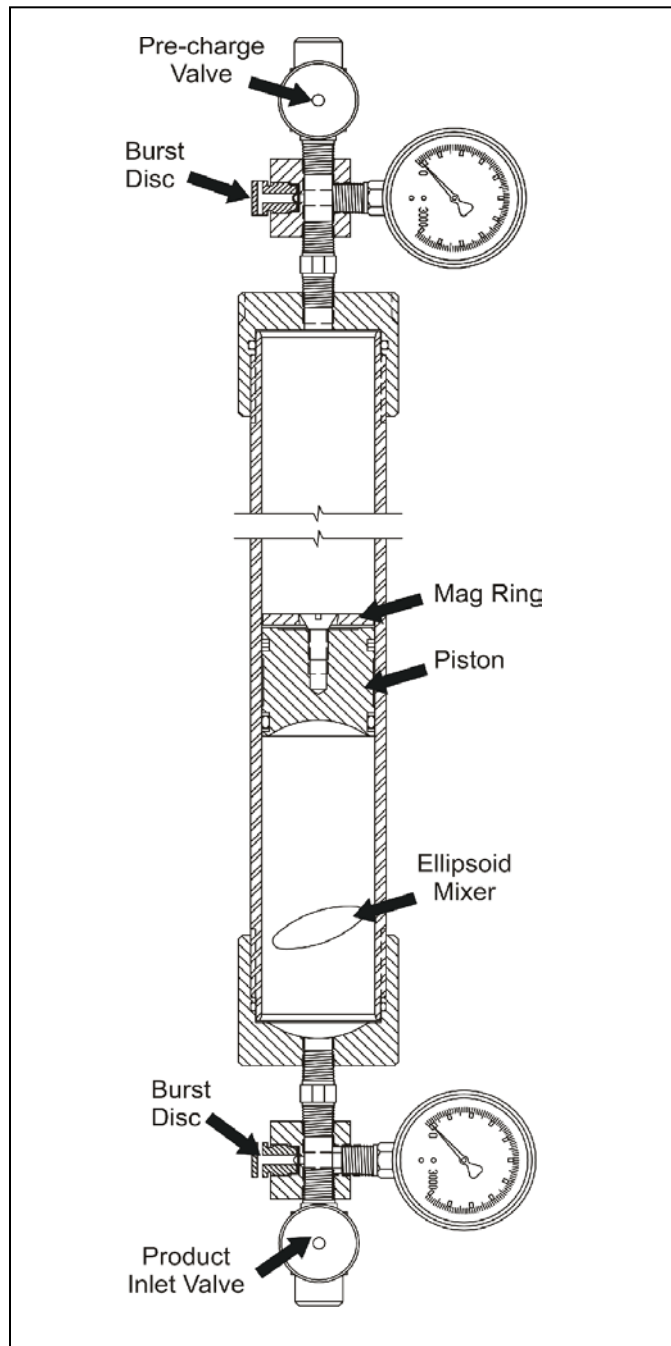

Figure 1
- Use small diameter stainless steel tubing to connect the pre-charge valve (see Figure 1) to an available gas pipeline.
Always open all valves slowly to avoid slamming the piston from one end to the other. Slamming the piston can result in damage to the mag ring (see Figure 1).